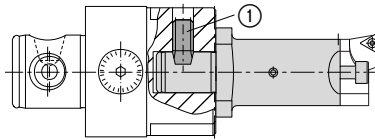

fig. 6
Secure serrated tool bodies with plane-parallel bearings with the same set screw ① via the countersink and fix in position (fig. 6).